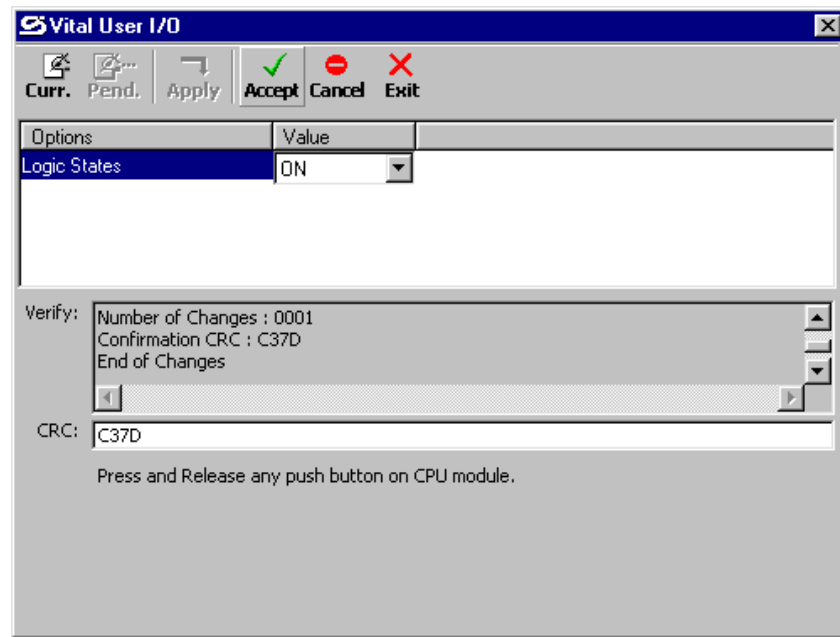

Figure 3-50
11. Press and release any push button on the CPU/CPU2 module and then click on the **Accept** button at the top of the display to finalize the changes. If the user forgets to press a button on the CPU/CPU2 module before clicking on the **Accept** button at the top of the display, a “Press and Release any push button on CPU module” prompt will be displayed near the bottom of the screen (see figure 3-50). If this happens, press any push button on the CPU/CPU2 module and then click on the **Accept** button at the top of the display to finalize the changes.